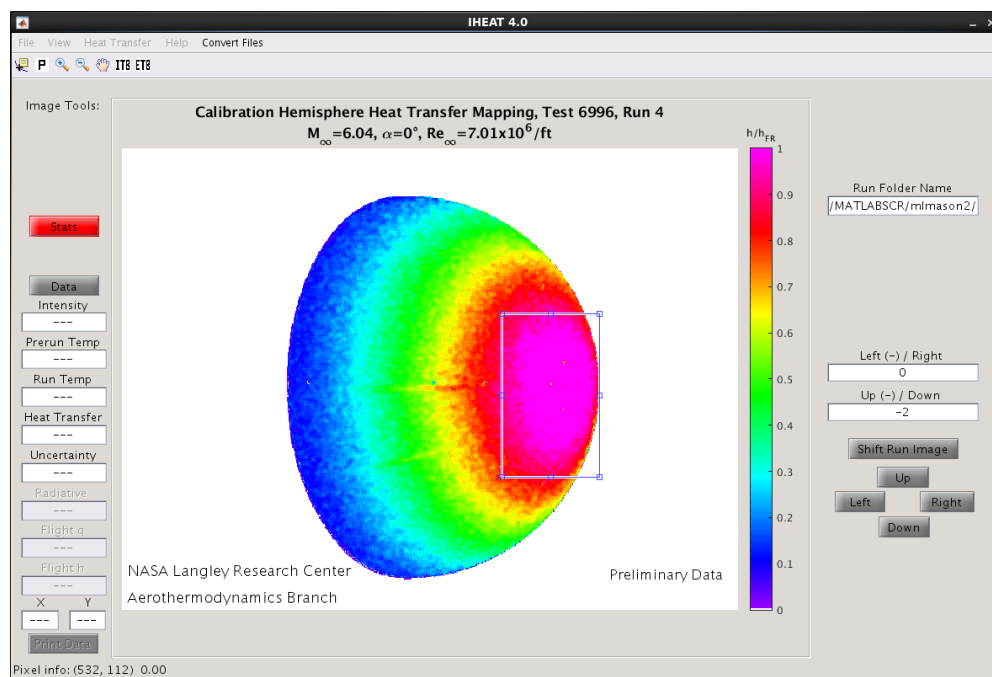

Figure 22: Image Tools, *Stats.*
5. *Stats*: The *Stats* tool in IHEAT v4.0, shown in figure 22, provides information about a rectangular region of interest (ROI) on the image. After selecting this tool, the user must left-click on the image and drag the mouse to generate the rectangular ROI, releasing the left mouse button when the ROI is correct. This procedure yields a histogram and a set of statistics for the ROI, as shown in figure 23. These statistics are provided: the number of points in the ROI, the maximum value, the minimum value (greater than zero), the mean value, and the standard deviation of the ROI data. The ROI cannot be modified in this tool, so the *Stats* tool must be closed and reentered to evaluate a different ROI in the image.